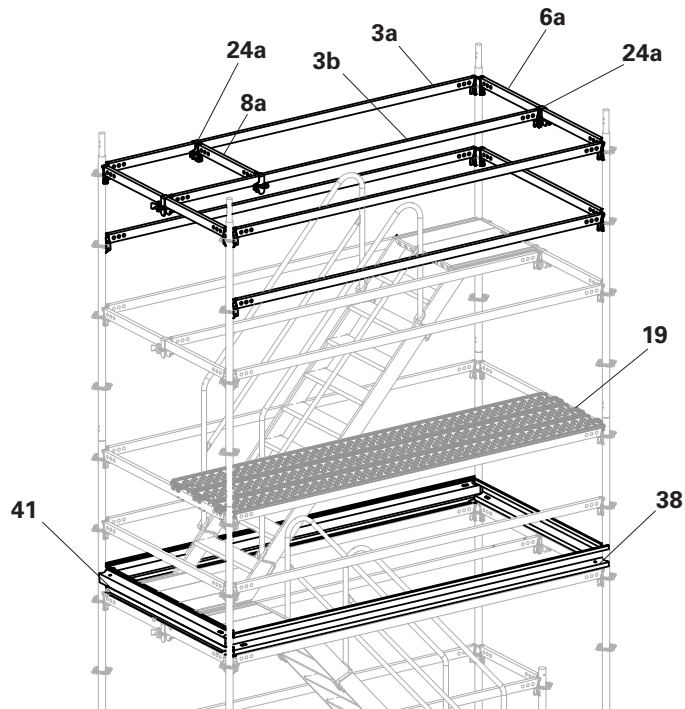

Fig. B10.03
1. Re-position Steel Decks UDG-2 (19) in the position shown.
3. Remove Toeboard Steel UPY 300 (38) & UPY 150 (41).
4. Relocate Steel Decks UDG-2 (19) to position shown in Fig. B9.04. (Fig. B10.03)